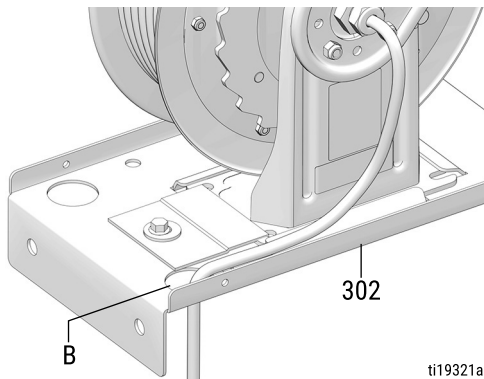

FIG. 11
7. Route the power cord through hole (B) in the base plate (302) (FIG. 11).